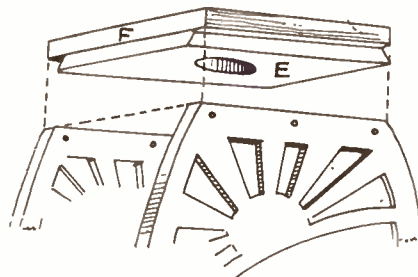

Fig. 5
shown in Fig. 5 are made. Piece (E) will be about $6\frac{1}{2}$ ins. by 6ins. with two edges only chamfered off as shown to suit the curvature of the front and back panels.